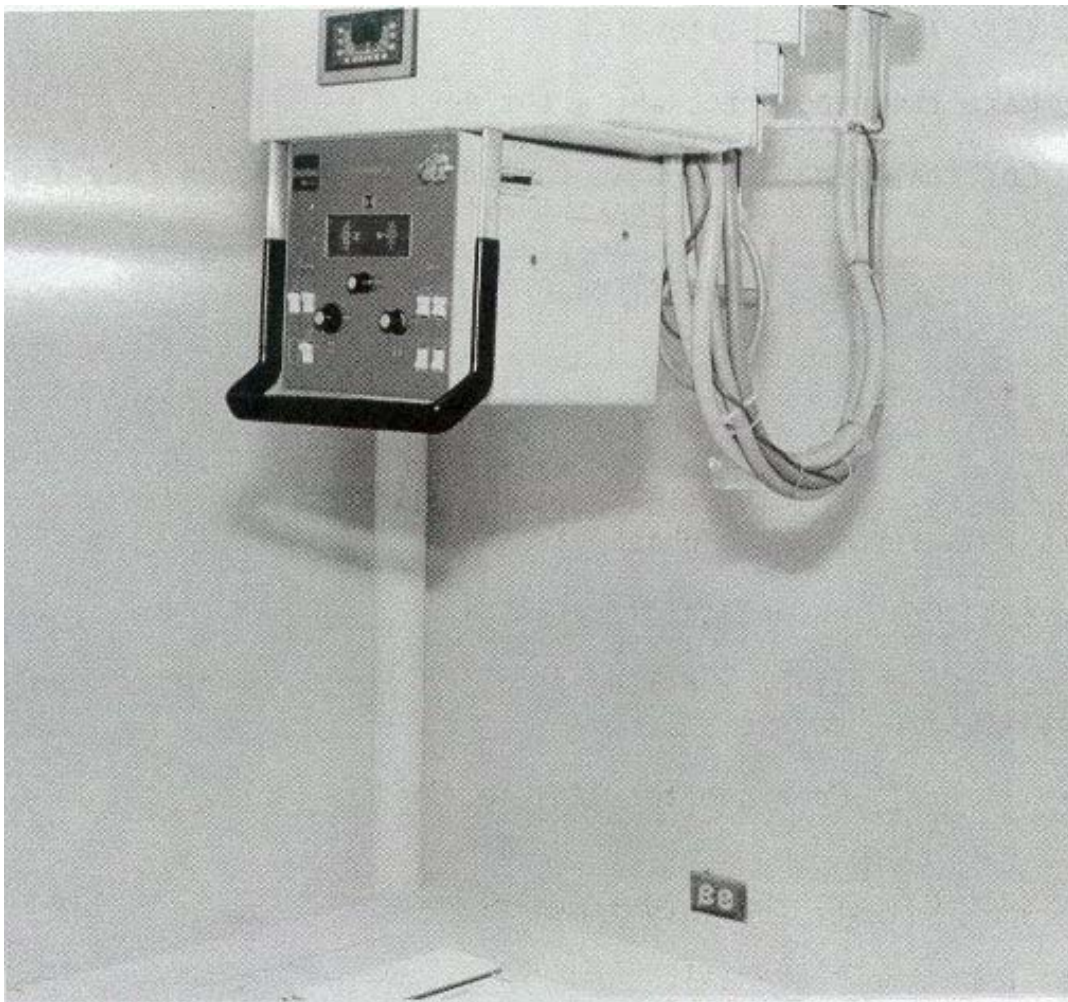

Figure 4-5. Testing 120 kVp region.
- (1) 100 kVp.
- (2) 15 mAs.
- s. Collimate the x-ray beam to the 120 kVp region (see figure 4-5).